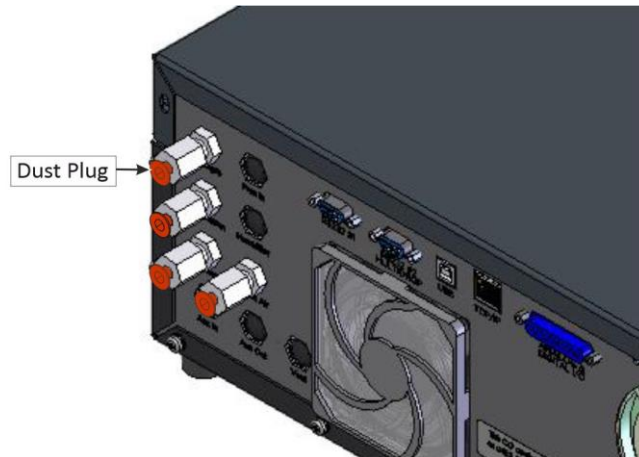

Figure 34 – Dust Plugs
5. Refer to Figure 34. Seal each pneumatic ports with a dust plug.